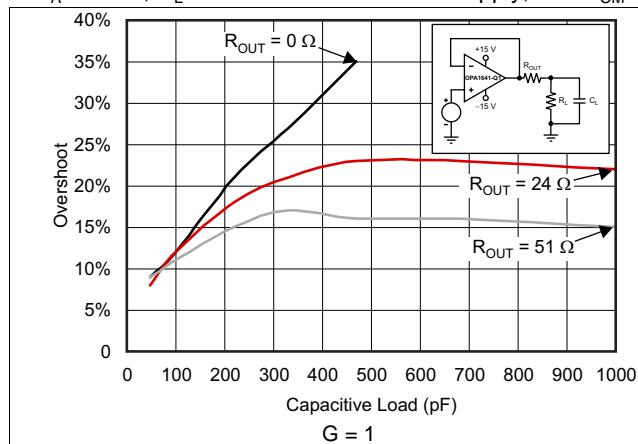
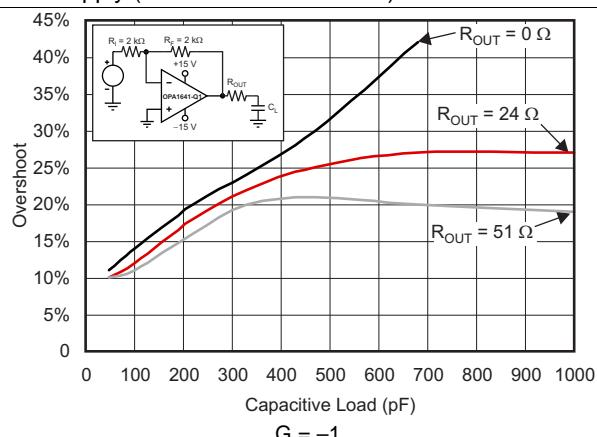

Figure 19. Small-Signal Overshoot vs Capacitive Load
Figure 20. Small-Signal Overshoot vs Capacitive Load
(1) Full power bandwidth = $SR / (2\pi \times V_P)$, where SR = slew rate.
(2) See Figure 19 and Figure 20.
Figure 19 and Figure 20 illustrate graphs of *Small-Signal Overshoot vs Capacitive Load* for several values of R_{OUT} . For details of analysis techniques and application circuits, see see *Feedback Plots Define Op Amp AC Performance* available for download at www.ti.com